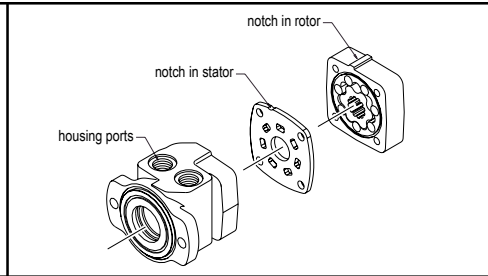

FIGURE 2
- F)** Turn shaft (21) over so that output end of shaft faces down. Install cooling plug (20) down into shaft (21) making sure large O.D. end of cooling plug (20) faces up. Lower drive link (12) into shaft making sure that timing mark end of drive link faces up and that the timing mark on the end of the drive link (12) is aligned with one of the through holes in the shaft (21). When splines contact each other, slowly rotate drive link (12) counterclockwise for a "200" series, or clockwise for a "201" series motor until drive link splines engage with those on shaft (21).
- G)** Turn housing (19) over so that pilot of housing faces down and secure housing (19) in vise. Without disturbing seal carrier assembly (9) or drive link (12), carefully lower shaft assembly into housing. To seat seal carrier (9) against wire ring (2), gently tap drive link (12) down until end of shaft (21) is nearly flush with rear surface of housing.
- H)** Place a body seal (8) in the groove in the rear surface of the housing (19). Using alignment marks as a guide, place wear plate (13) on housing making sure that notch in wear plate (13) is aligned with port side of housing (20) (See Figure 2).
- I)** Place a body seal (8) in the groove in the face of the rotor assembly (14). Lower rotor (14) onto drive link (12) making sure that timing mark on drive link is aligned with a peak on the rotor (14) (See Figure 3). Once splines are engaged, rotate rotor (14) so that notch on rotor is aligned with notch on wear plate (13) and ports on housing (19) (See Figure 2). Insert drive link pin (15) into end of drive link (12) making sure that concave end faces up.
- J) Place remaining body seal (8) in groove in endcover (16). Using alignment marks as a guide, place endcover (16) onto motor making sure that end of drive link pin (15) is in hole in center of endcover. Insert four assembly bolts (18) into bolt holes and pre-torque to 13,6 Nm [10 ft. lb.]. Using a crisscross pattern, torque bolts to 67,8 Nm [50 ft. lb.].
- K) Remove motor from vise and place on work surface with shaft (21) facing up. Making sure that lip on dust seal (1) faces up, place dust seal (1) over shaft (21). Using a sleeve and hammer, carefully drive dust seal (1) into place.